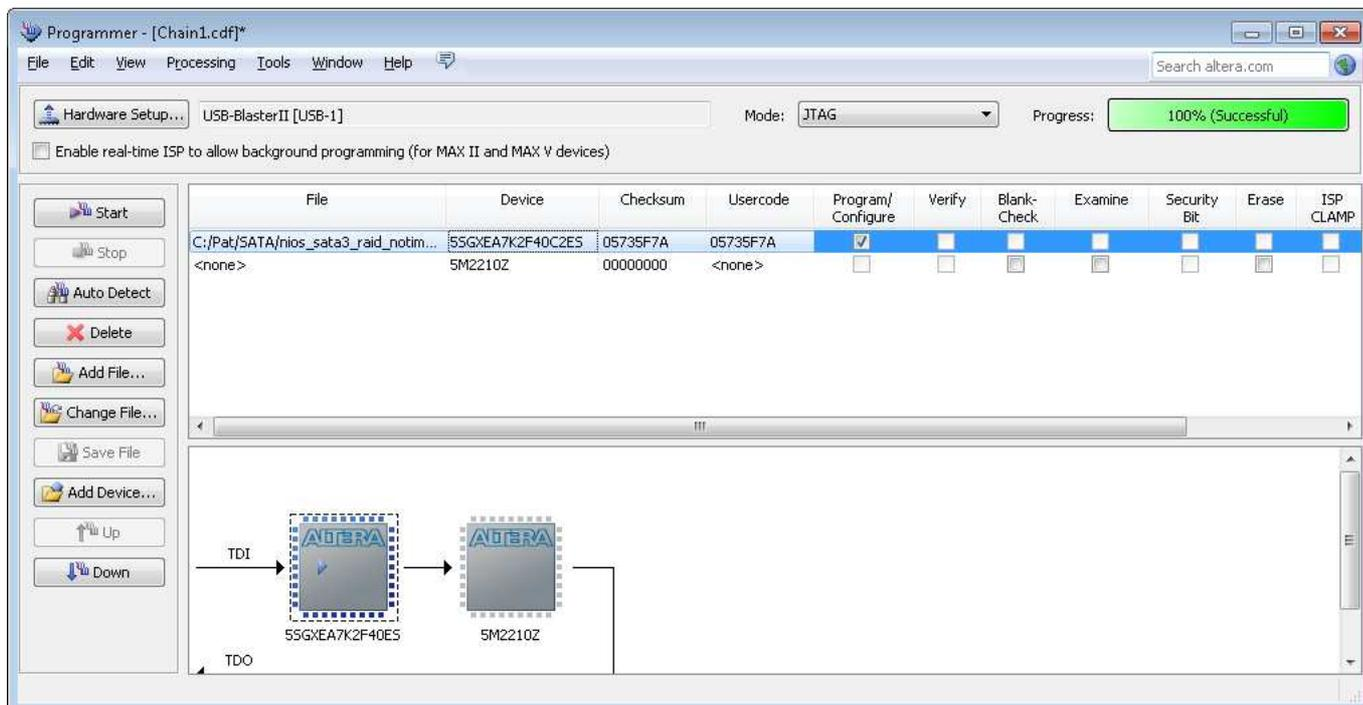

Figure 1-6 Programmer Environment
- Open Quartus Programmer and download “nios\_sata3.sof” to StratixV GX Development board, as shown in Figure 1-6.